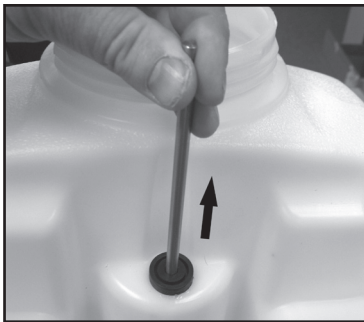

Figure 7
7. Pull upward to slide piston rod out of pump. **(Figure 7)**